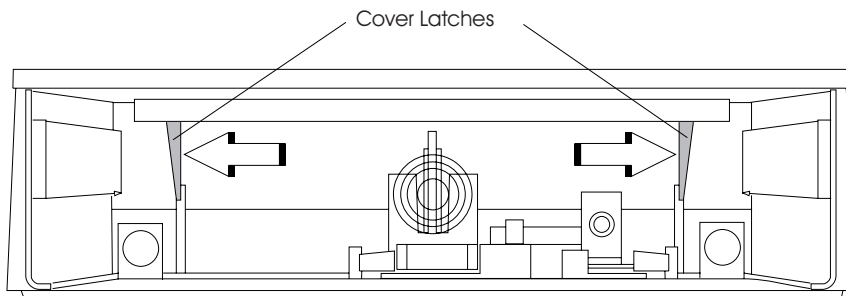

Figure 68. Removing and replacing the top cover
5. To separate the top cover from the base, reach in from the front and push the cover latches outward while pushing them to the rear. The cover slides off toward the rear (see Figure 68 on page 82).